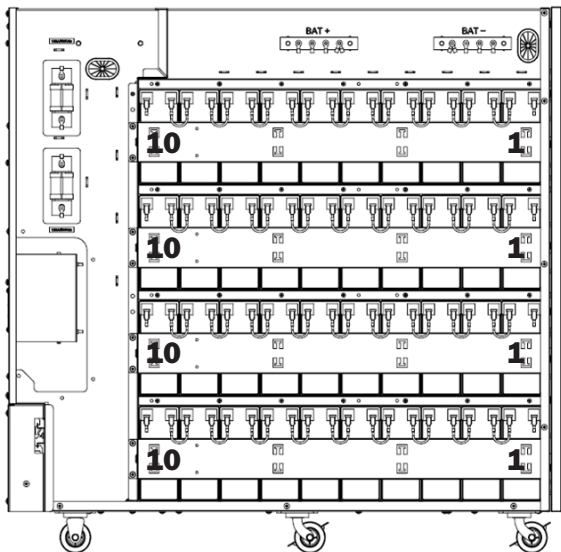

Figure 5-14A: The left side of the cabinet is the positive side of the battery strings.
17. Use 36 battery shorting/jumpers to connect the terminals of the adjacent batteries on the positive side of the battery cabinet (Figure 5-14A).